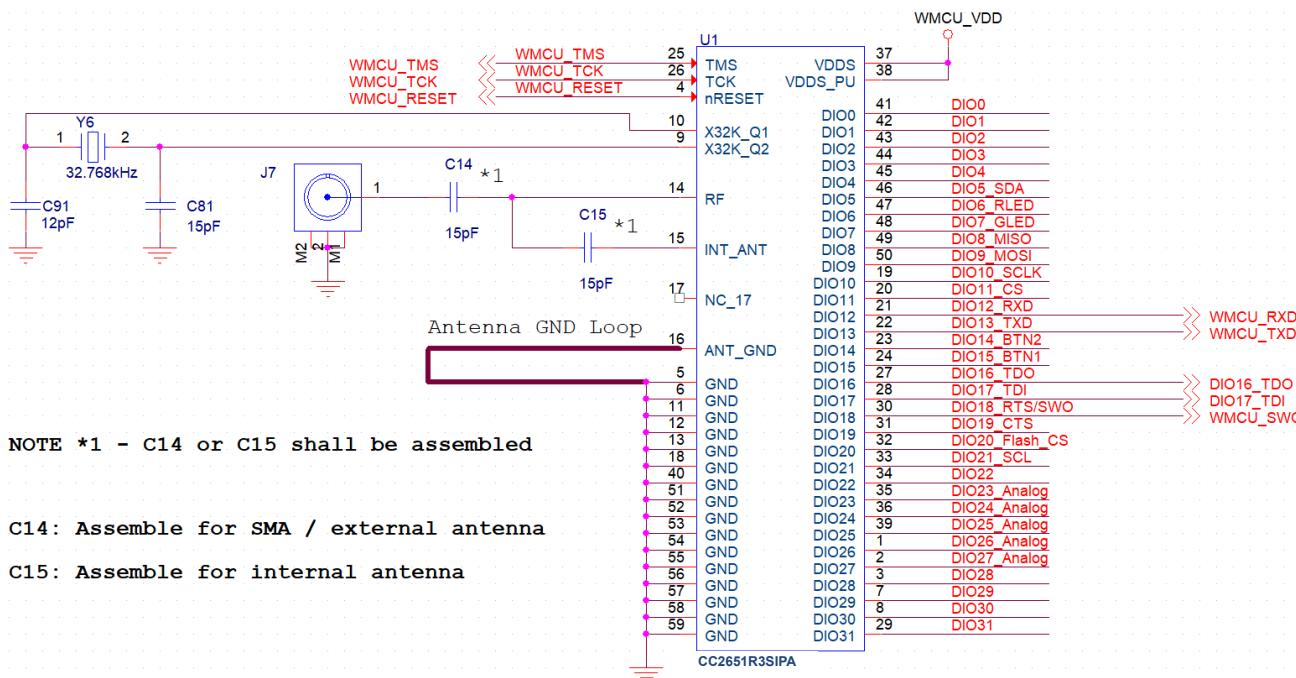
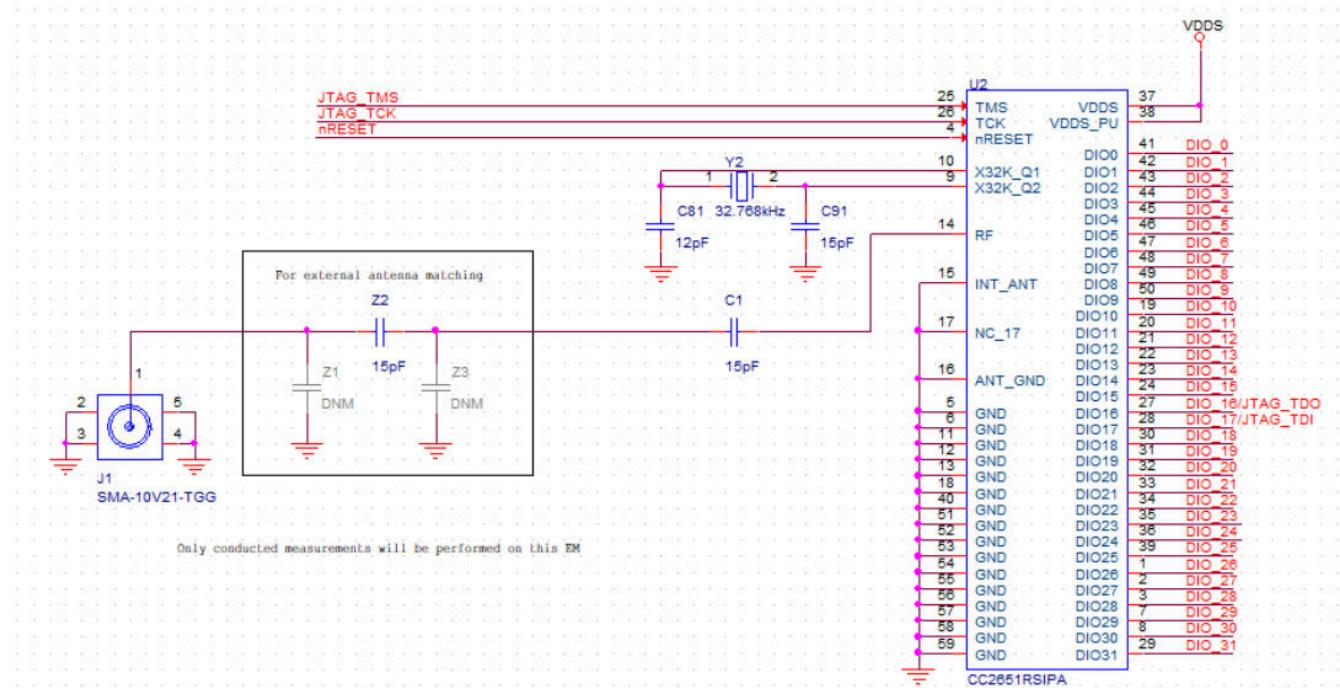

図 10-1. CC2651R3SIPA Typical Application Schematic
図 10-2. CC2651R3SIPA Typical Application Schematic for External Antenna Connection
図 10-1 shows the typical application schematic using the CC2651R3SIPA module. Note that C15 should be assembled when using the integrated antenna option within the module and when the layout design guidelines in セクション 10.4.2 are strictly followed. If the layout guidelines described in セクション 10.4.2 cannot be followed, it is recommended to implement the alternate application circuit schematic in セクション 10.2 and follow the alternate layout guidelines in セクション 10.4.4.
If using the external antenna option, C14 should be assembled. In addition, Pin 15 of the module should be connected to GND as shown in 図 10-2. For the full reference schematic, download the LP-CC2651R3SIPA Design Files.
- π or L matching and tuning may be required between RF out path, pin 14, and the external connection as shown in 図 10-2.
表 10-1 provides the bill of materials for a typical application using the CC2651R3SIPA module with the internal antenna as shown in 図 10-1, while 表 10-2 provides the bill of materials for a typical application using the CC2651R3SIPA module with an external antenna as shown in 図 10-2
In order to meet the module power-on-reset requirements, VDDS (Pin 37) and VDDS_PU (Pin 38) should be connected together. If the reset signal is not based upon a power-on-reset and is derived from an external MCU, then VDDS_PU (Pin 38) should be No Connect (NC). Please refer to 図 10-1 for the recommended circuit implementation.